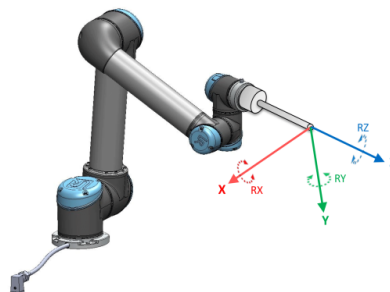

Figure 16.2: Tool (TCP) feature
- The Tool feature is located with origin in the centre of the current TCP (see figure 16.2)